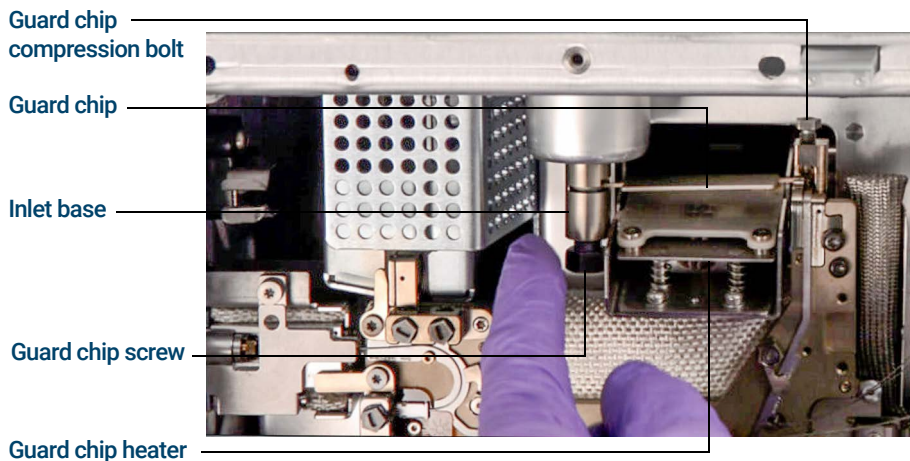

Figure 12. Guard chip and related parts
- 9 Pull the compression bolt access plate out to allow the torque driver to access the Guard chip compression bolt. (See Figure 12 on page 64.)